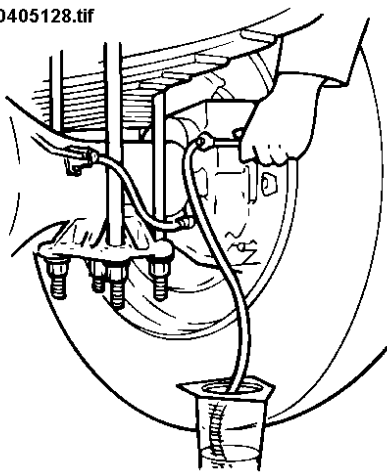

Figure 28 Typical Caliper Bleeding Setup
12. Open the bleeder screw until the fluid begins to flow (about 3/4 turn). Refer to FIGURE 28. After draining 250 cc (8.5 oz) of fluid, check the stream for air bubbles. When no further air bubbles enter the bleed bottle, close the bleeder screw.